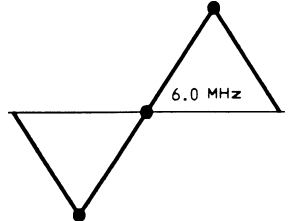

Fig. 8
1. Adjust the output of Sweep Generator until a similar waveform is obtained (Fig.8).
2. Adjust T104 to obtain the marker 6.0MHz rested on the horizontal line (Fig.8).